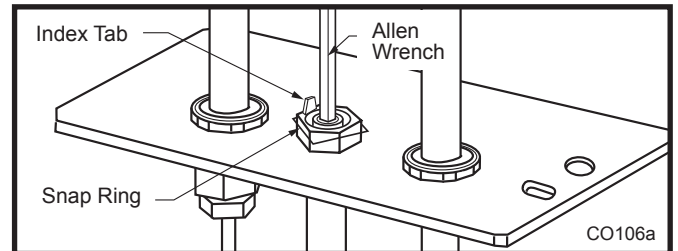

Fig. 42 Remove pilot orifice.
2. Remove pilot orifice with 5/32" Allen wrench. (Fig. 42)